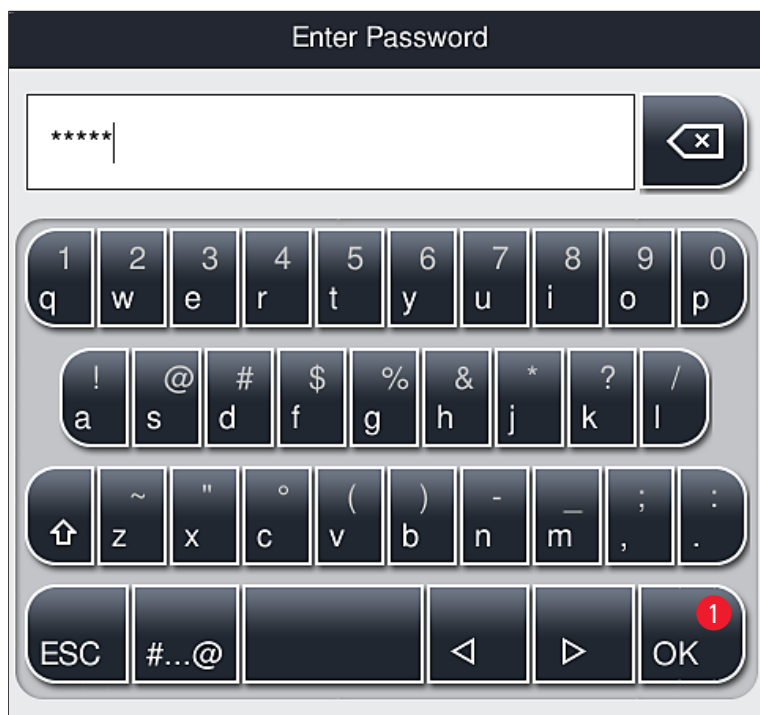

Fig. 29
2. A keyboard (→ Fig. 29) is then displayed which can be used to enter the password.